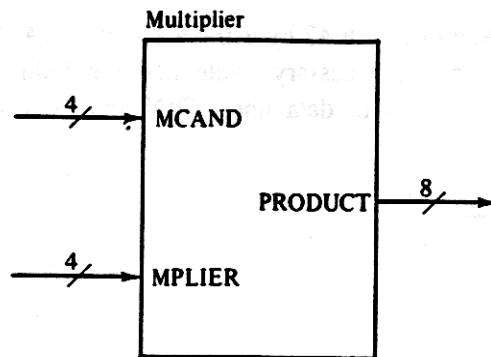

Figure 6.43 Multiplier for Problem 6.26.
- 6.26. The hardware multiplier of Fig. 6.43 can multiply two 4-bit numbers (MCAND and MPLIER) and produce an 8-bit product (PRODUCT).